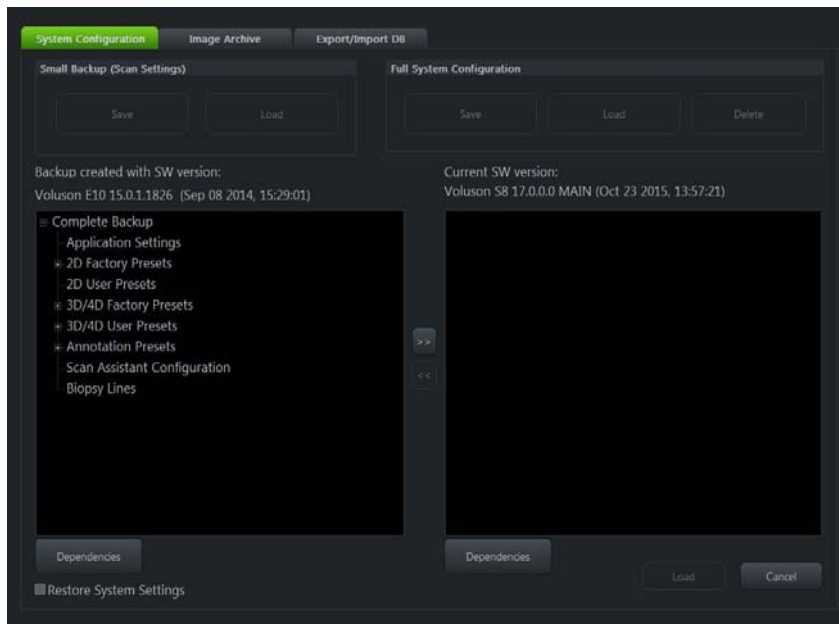

Figure 4-13 Load Backup Data
- 2.) Select the “**Complete Backup**” (marked blue; see: Figure 4-13 below) and click the >> button to copy the Complete Backup into the Load Data field.